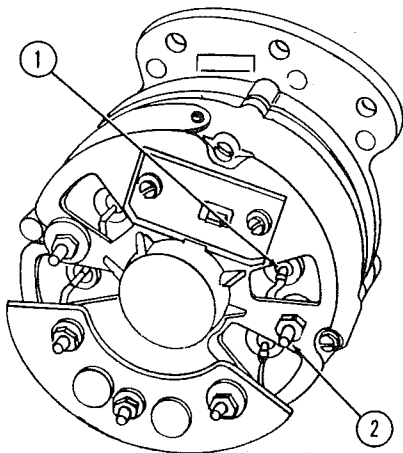

FIG. 76—IN-CIRCUIT STATOR LEAKAGE TEST POINTS
a. Connect the test lamp to a diode terminal and the ground terminal, as shown in Fig. 76.